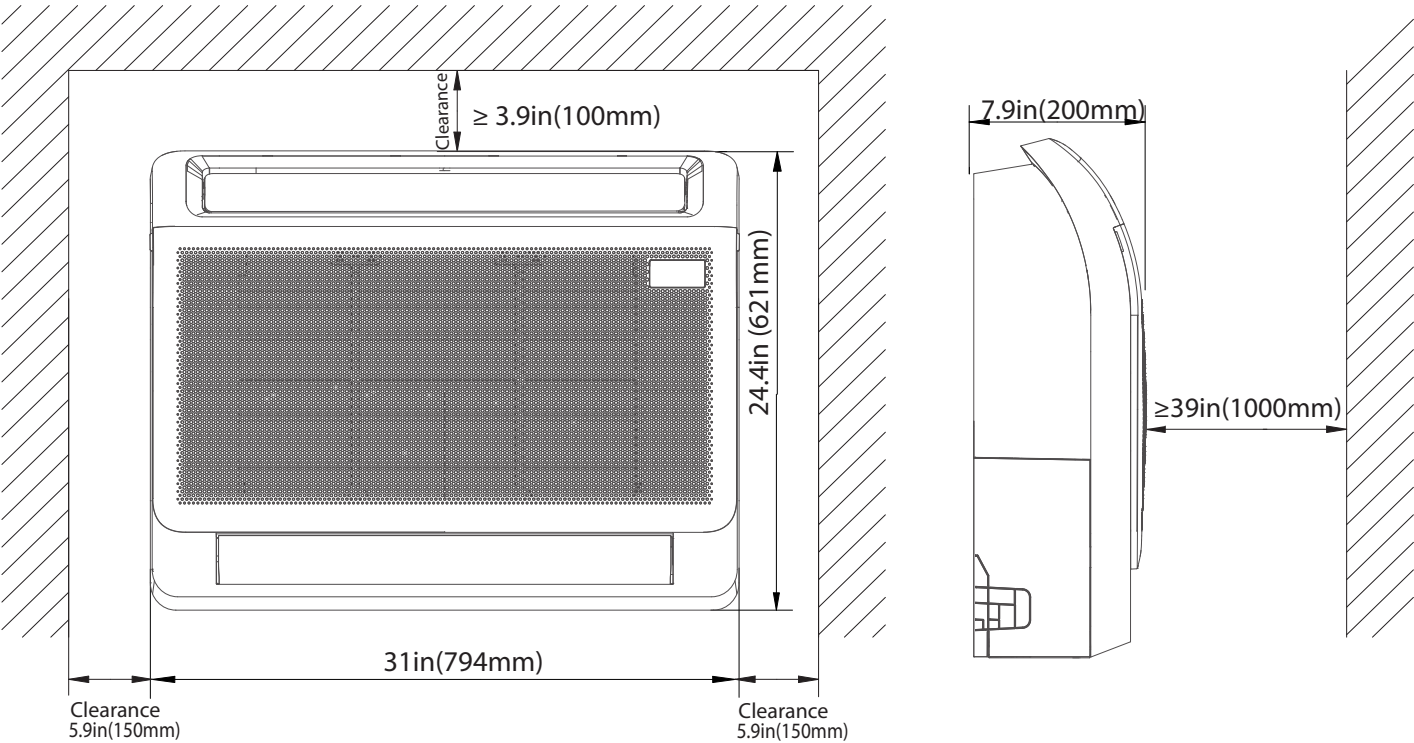

Fig. 4 – Dimensions and Clearances
**Clearance** - Provide adequate clearance for airflow (Fig. 4).